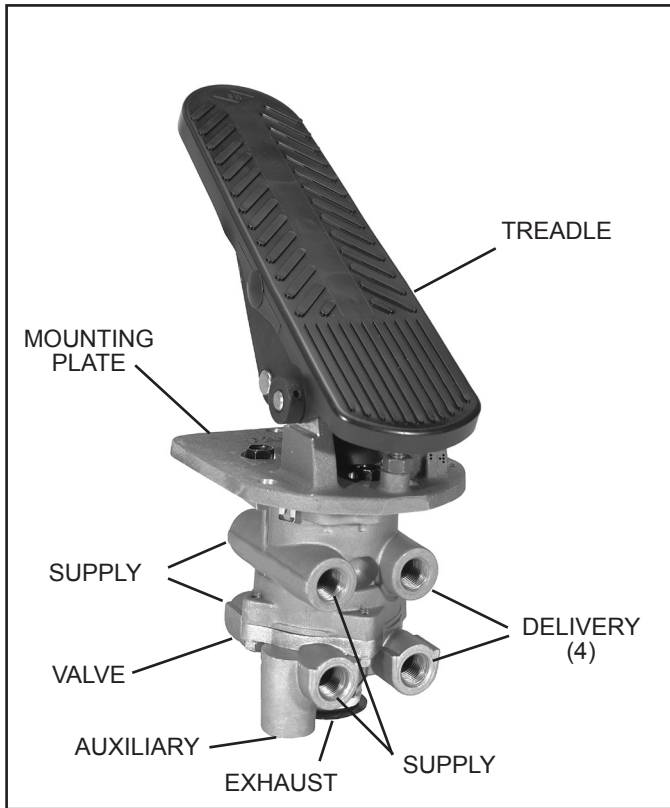
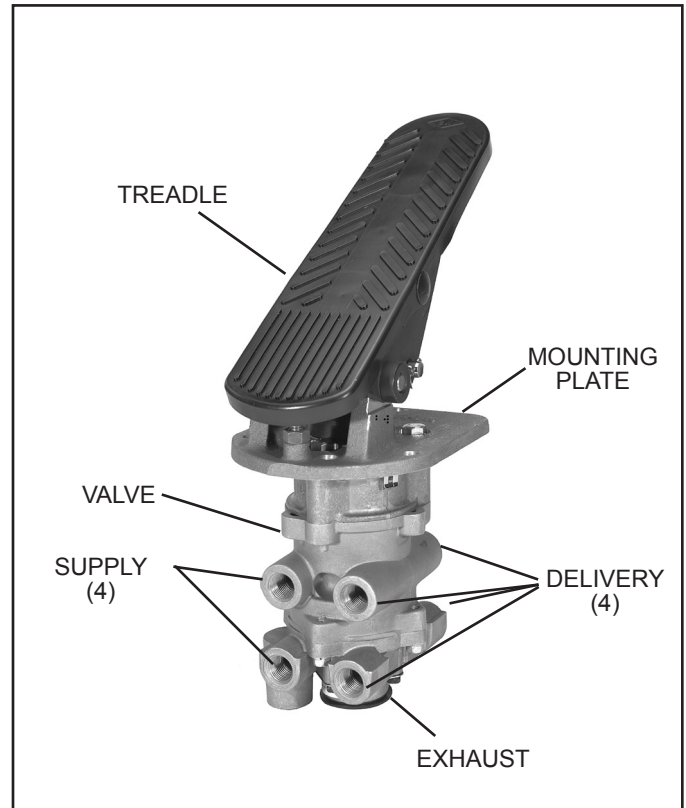

FIGURE 1 - BENDIX® E-8P® DUAL BRAKE VALVE
FIGURE 2 - BENDIX® E-10P™ DUAL BRAKE VALVE
The Bendix® E-8P® (Figure 1) and E-10P™ (Figure 2) dual brake valves are floor mounted, treadle operated type brake valves with two separate supply and delivery circuits for service (primary and secondary) braking, which provides the driver with a graduated control for applying and releasing the vehicle brakes.
The E-10P dual brake valve (Figure 2) is similar to the E-8P dual brake valve except that a metal coil spring (5) housed in an upper body assembly replaces the rubber spring (27) used in the E-8P valve. The use of a metal coil spring (and the upper body assembly) provides greater treadle travel and, therefore, provides the driver with a less sensitive “feel” when making a brake application. The E-10P dual brake valve is generally used on buses, where smooth brake applications contribute to passenger comfort.